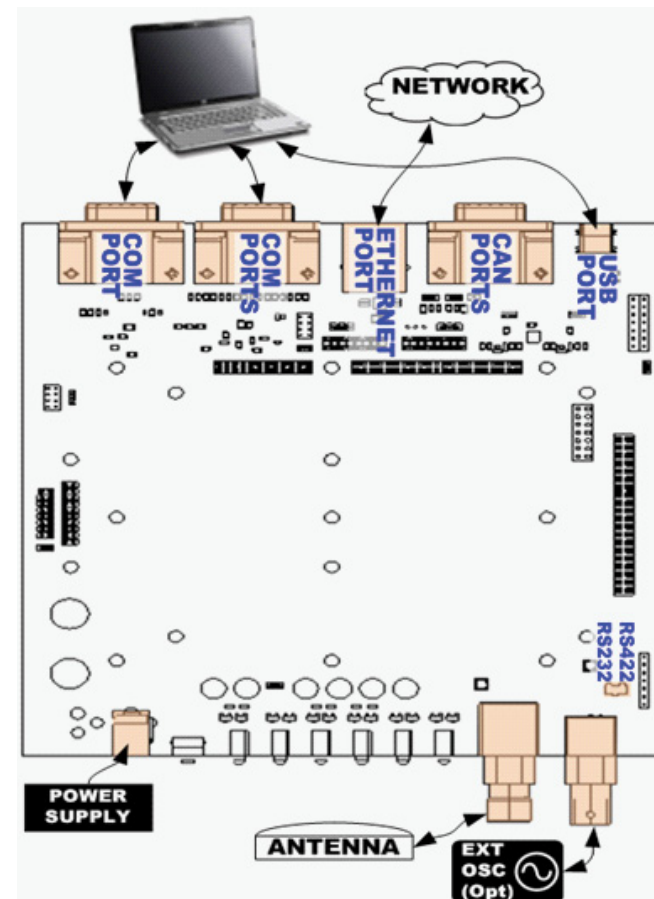

Figure 2: Connecting to the OEM6 Dev Kit
8. Connect the Dev Kit to other equipment (antenna, for example), as necessary, as illustrated in *Figure 2*. You can connect to other equipment with the power on.